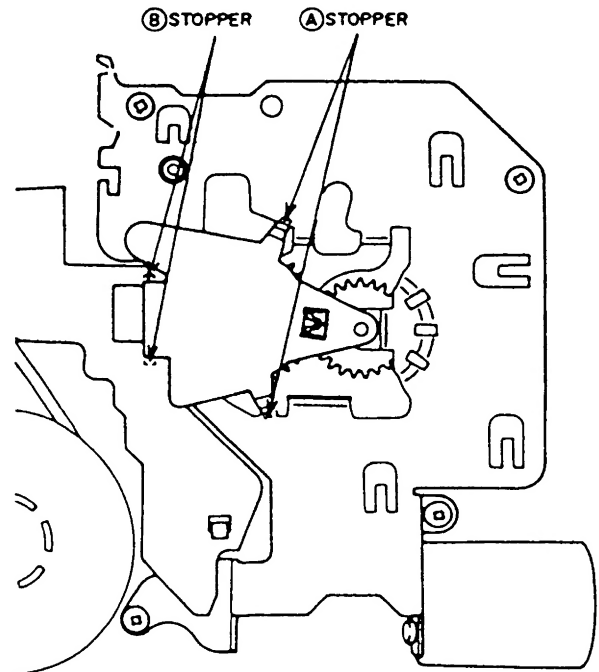

Fig. 3-5
- 1) Release the two (A) stoppers as shown in Fig. 3-5.